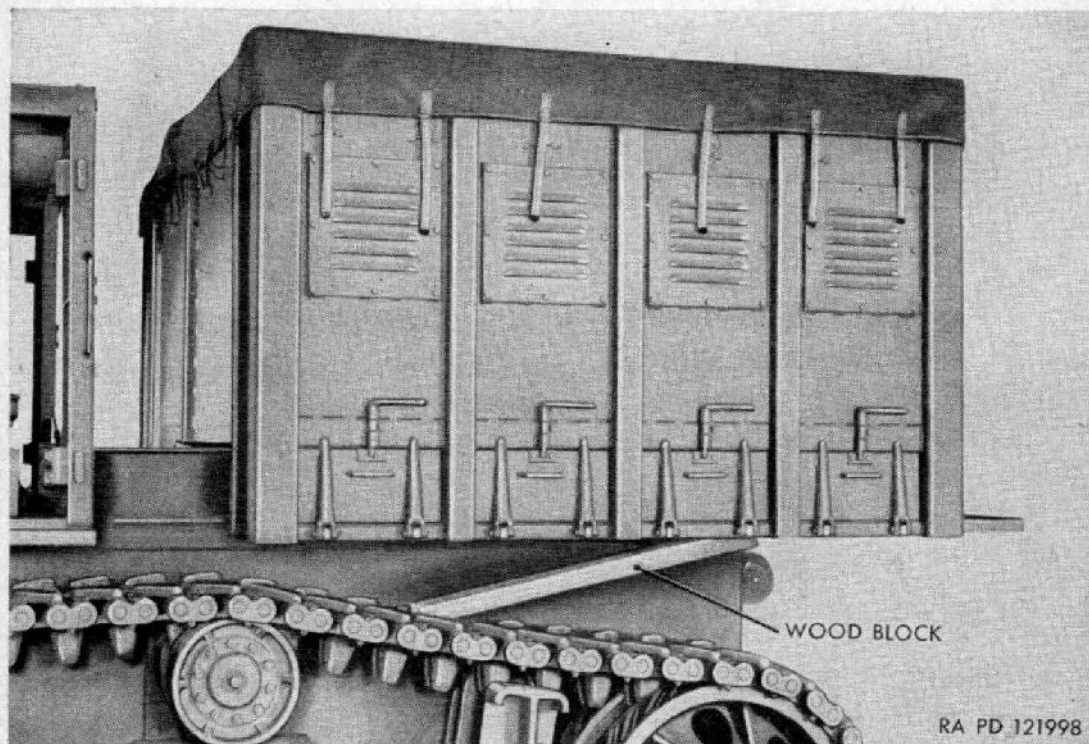

Figure 159. Ammunition box moved back.
c. Moving Ammunition Box Back. Figure 159 shows the box moved back to allow room ahead of box for better access to engines. To move box back, remove the four bolts (one at each corner of box) that attach the box to sides of hull. Place a wood block 3 feet long on each side of tractor in position shown, with one end of each block against chevron on track, the other against a cleat under box. Move the tractor back slowly until angles on the bottom of the box contact the stops on inside of hull. To move box ahead, reverse the blocks and drive the tractor forward. A rail on the right side of the hull engages a groove on the bottom of the ammunition box to keep box in alinement.